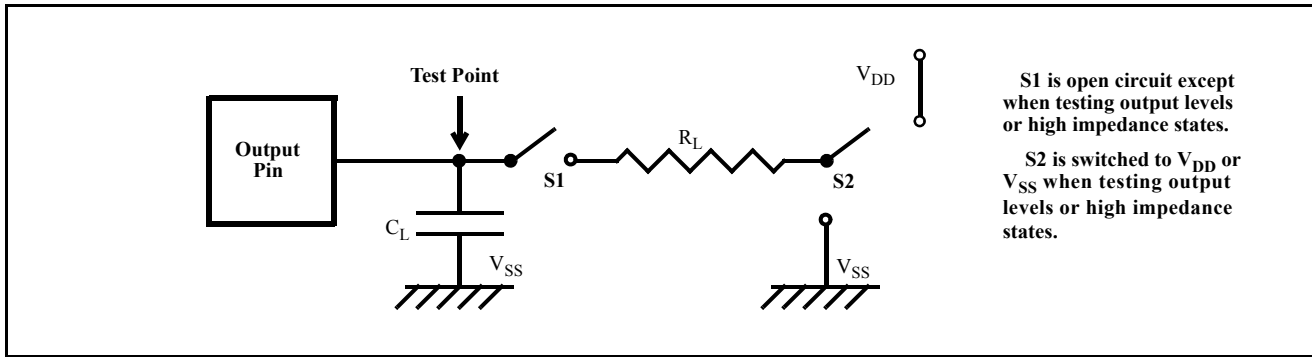

Figure 11 - Output Test Load
AC Electrical Characteristics† - Serial Streams (Figures 11, 14, 15 and 16)
**AC Electrical Characteristics† - Processor Bus (Figures 11 and 17)**